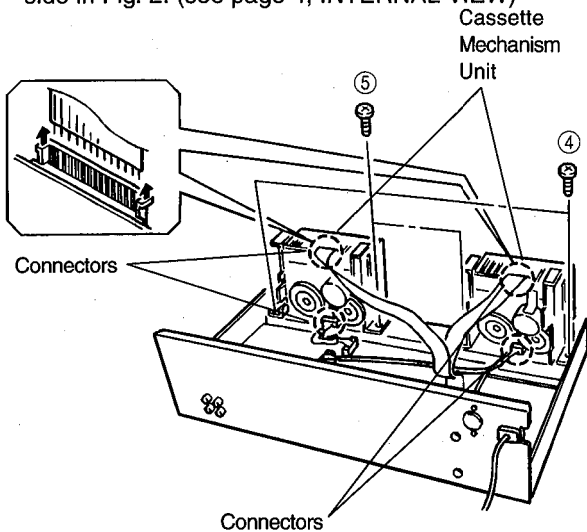

Fig. 2
- a. Remove 2 screws (④) and loosen 2 screws (⑤) in Fig. 2 and then pull out the Cassette Mechanism Units.
- b. Remove 4 connectors (#1 to #4) at the Mechanism side in Fig. 2. (see page 4, INTERNAL VIEW)